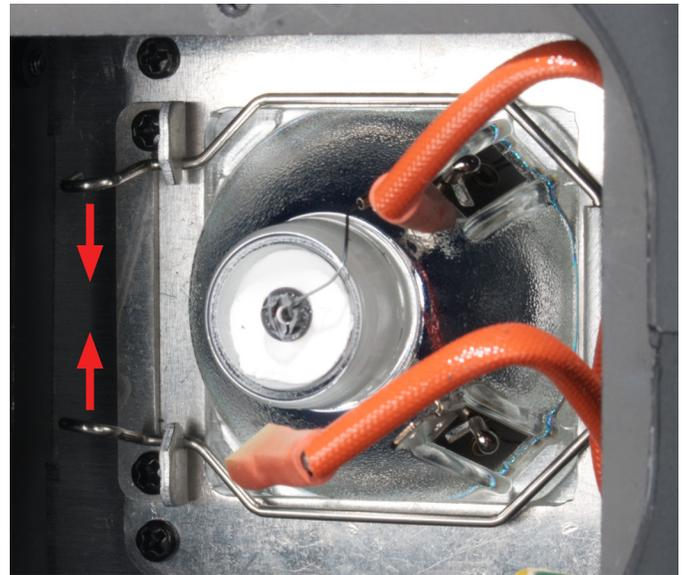

Figure 2
5. Next, located on the left side squeeze the lamp holding clips together and lift the holder (Figure 2).